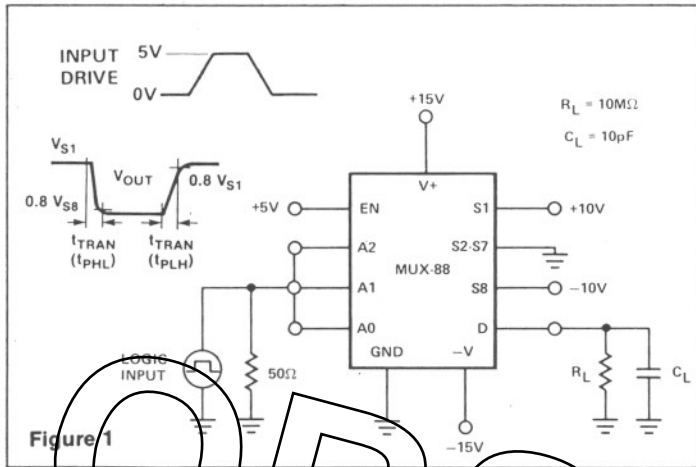

Figure 1
- Sample tested. The measurement conditions of Figure 1 insure worst case transition time.
Voltage = 5V/Div, Time = 1µs/Div, See Transition Time Circuit of Figure 1.
Voltage = 500mV/Div, Time = 1µs/Div, See Transition Circuit of Figure 1.
Voltage = 500mV/Div, Time = 1µs/Div, See Transition Time Circuit of Figure 1.
When operating with negative input voltages, the gate-to-channel diode will be turned on if the voltage drop across an ON switch exceeds $-0.6V$. While this condition will cause an error in the output, it will not damage the switch. In lab tests, the multiplexer output load capacitor has increased to $0.01\mu F$ in the Transition Time circuit, Figure 1. With $V_{S1} = -10V$ and $V_{S8} = +10V$, the logic input was driven at a 1kHz rate. The positive-going slew rate was $0.3V/\mu sec$ which is equivalent to a normal I_{DSS} of 3mA. The negative-going slew rate was $0.7V/\mu sec$ which is equivalent to a "reverse" I_{DSS} of 7mA. Note that when switch 1 is first turned ON it has a drop of $-20V$ across its terminals. In spite of that fact, the current is limited to approximately twice its normal I_{DSS} .